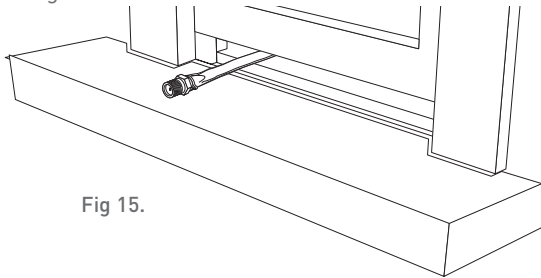

Fig 15.
2. Run the white flat cable through an open window. Make sure that it runs under the window to ensure proper window closure. See Fig 15.